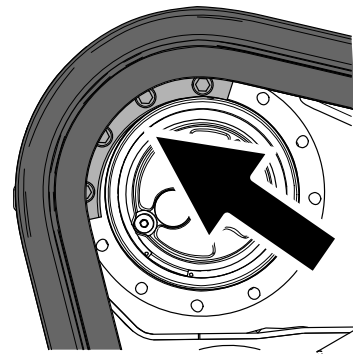

Figure 71
- Move the traction control forward until the drive sprocket segment engages with the track (Figure 71).
- Apply thread-locking compound to the bolts of the other drive sprocket segment that you removed and install the sprocket segment (Figure 71). Torque the bolts to 247 to 301 N·m (182 to 222 ft-lb).